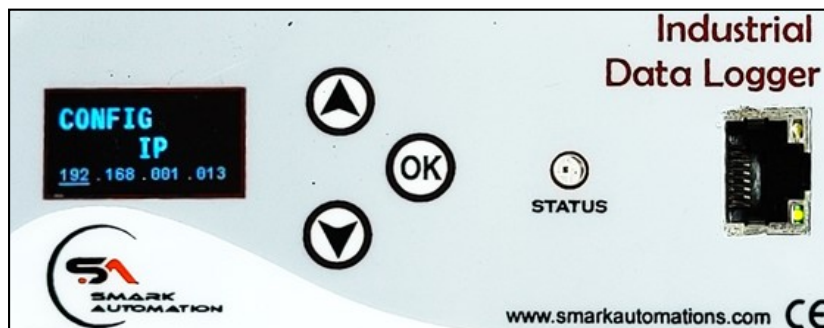

Figure 23: Configuring IP address
1. **Enter IP Address:** The device will first prompt the user to enter the IP address, as shown in Fig 23. Use the up and down arrow keys to adjust each octet of the IP address. Press OK to set the current octet and move to the next one. After setting the fourth octet by pressing OK, the user will be prompted to enter the Subnet.